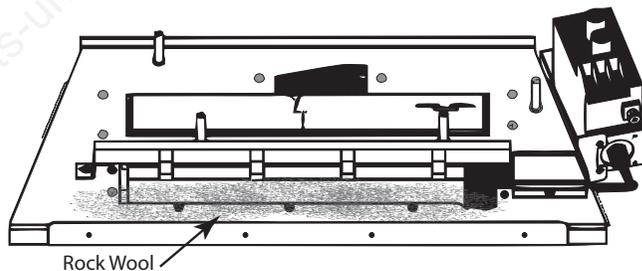

Figure 5.10 - Installing Rock Wool
- Before installing logs, place rock wool in front of the grate. Loosely apply nickel size pieces to allow the gas to flow through for proper burn and not to be obstructed. Failure to do so would cause a higher level of CARBON MONOXIDE. See Figure 5.10.